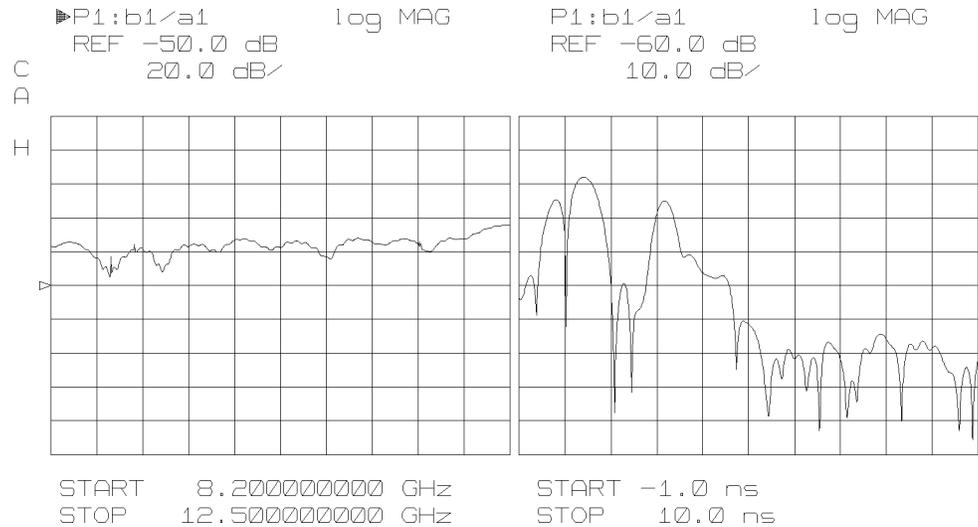

Figure 13-11. Typical Frequency and Time Domain Response of an Antenna
4. Press **LOG MAGNITUDE** **AUTO** to display the trace and observe the Time Domain response of the antenna. Figure 13-11 shows a typical Frequency Domain and Time Domain response.